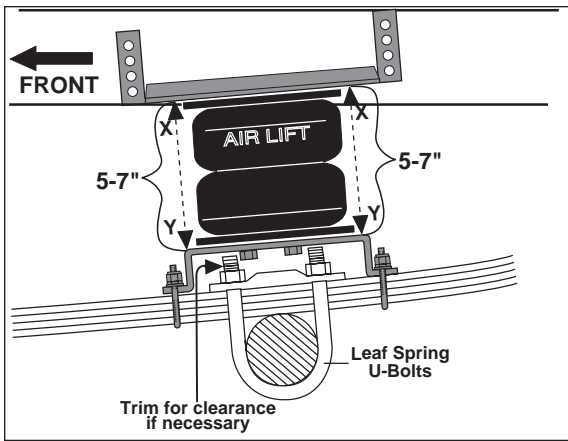

Figure 7
*NOTE: Some vehicles may require the leaf spring U-bolts to be trimmed to allow the bottom bracket to fit properly (Figure 7).*
1. Align the assembly vertically and horizontally (Figure 7). There must be sufficient clearance between the air springs, the frame, and the tire and brake drum at the maximum inflated diameter (7.0"). Tighten the upper bracket and mounting bolts for the bellows to 20 ft./lbs.